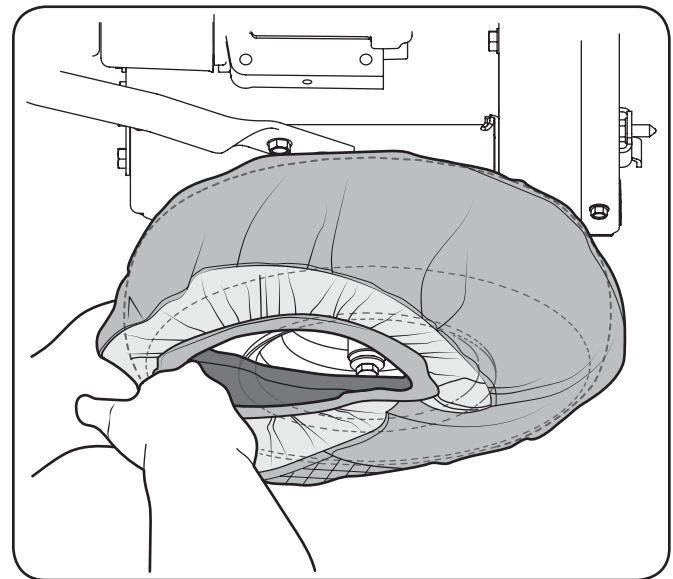

Figure 5-5
1. Fit a snow sock over the top of the wheel on the FLEX™ Power Base, as shown in Figure 5-5, then work the rest of it around the bottom of the wheel.